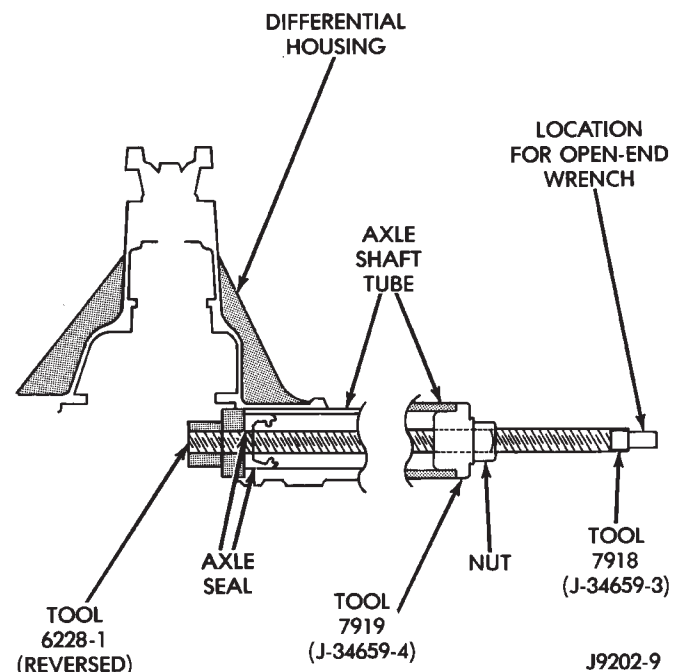

Fig. 26 Left Side Seal Installation
(4) Install a pilot stud at the left side of the differential housing. Attach Dial Indicator to housing pilot stud. Load the indicator plunger against the opposite side of the housing (Fig. 26) and zero the indicator.
- (2) Install the inner axle seal on Tool 6228-1 (Fig. 26).
- (3) Thread the **reverse** side of Installer 6228-1 tightly onto the threaded rod tool (Fig. 26).
- (4) Press the seal into position.